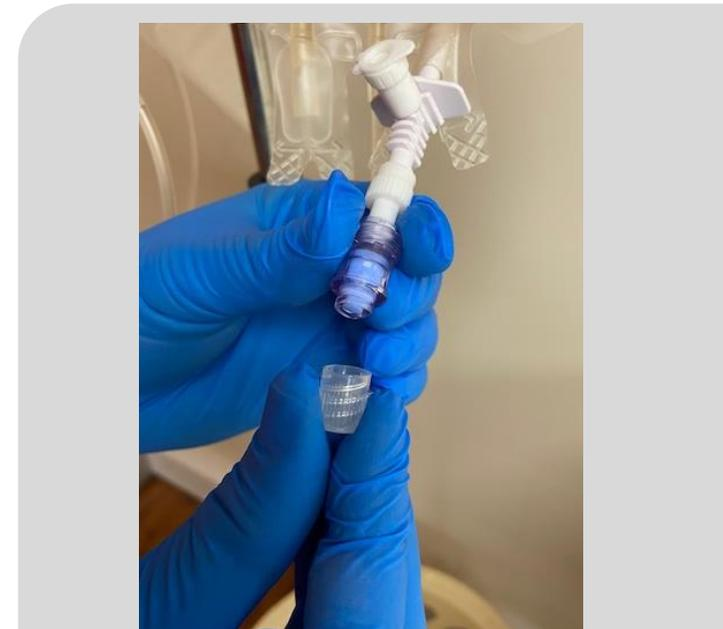

Fig. 5
- Remove the needle-free valve cap (Fig. 5). **Put it to one side in its sterile packet.**